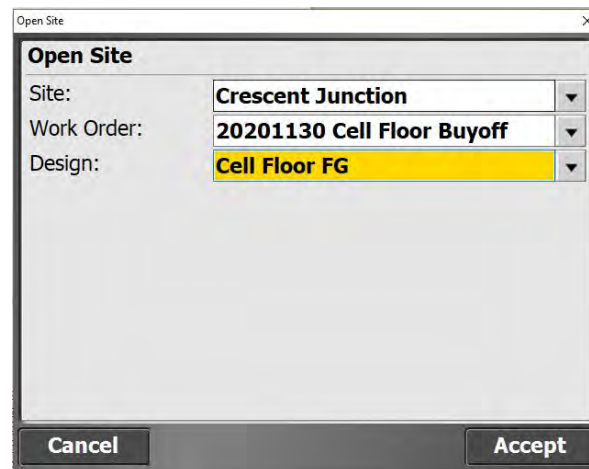

Figure 2. Select Associated Design
Step 2: Select the design associated with the verification buyoff survey you are conducting (Figure 2). Current designs on the data collector include: